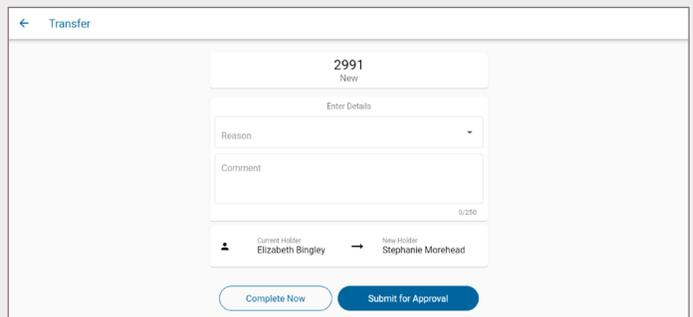

Fig. 119 – Transfer screen – Fill in transfer details and submit
7. Select a reason for the transfer from the **Reason** dropdown menu, as shown in Fig. 119.